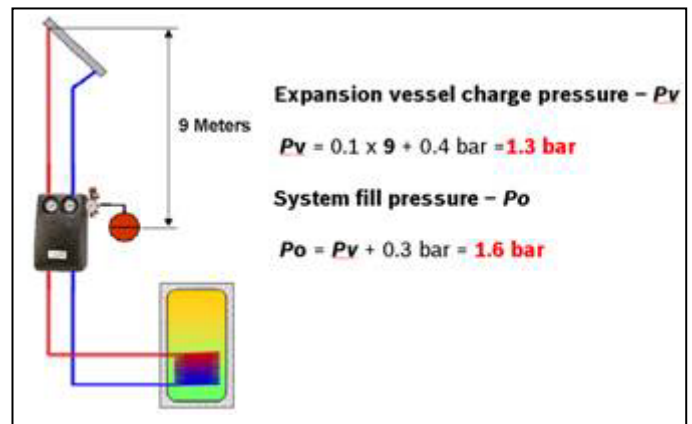

Fig. 2: Solar system pressures
- ▶ This is done by measuring the system from the highest point of the solar panels to the expansion vessel. **1 metre = 0.1bar e.g. using Fig 2: 9 metres = 0.9bar.**